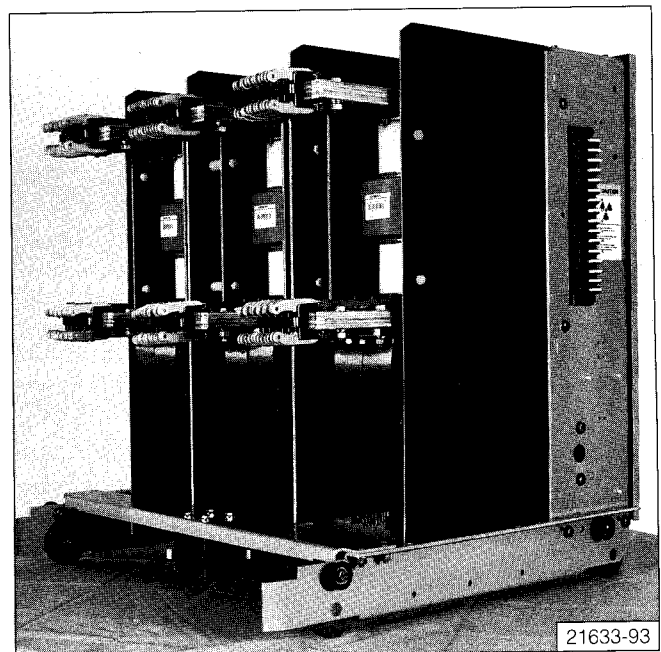

Figure 9: Rear of GMI Breaker with Primary Disconnects.
2. Check the upper and lower primary studs and contact fingers shown in **Figure 9**. Verify mechanical condition of finger springs and the disconnect studs.
3. Coat movable primary contact fingers (**Figure 9**) and the secondary disconnect contacts (**Figure 9** and **22**) with a light film of Siemens Contact Lubricant No. 15-171-370-002.